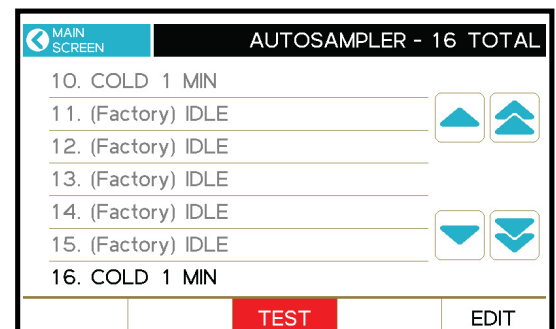

Figure 8
- Begin the test by pressing **TEST** on the Autosampler Test Screen (fig. 8).